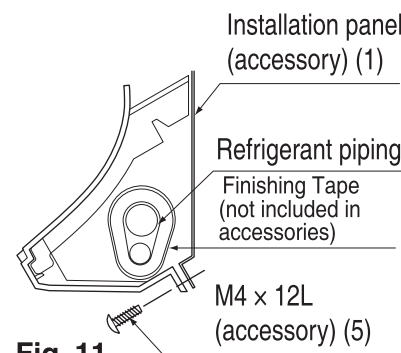

Fig. 11
- Secure the indoor unit to the installation panel (1) with the securing screws (5). (Refer to Fig. 11)